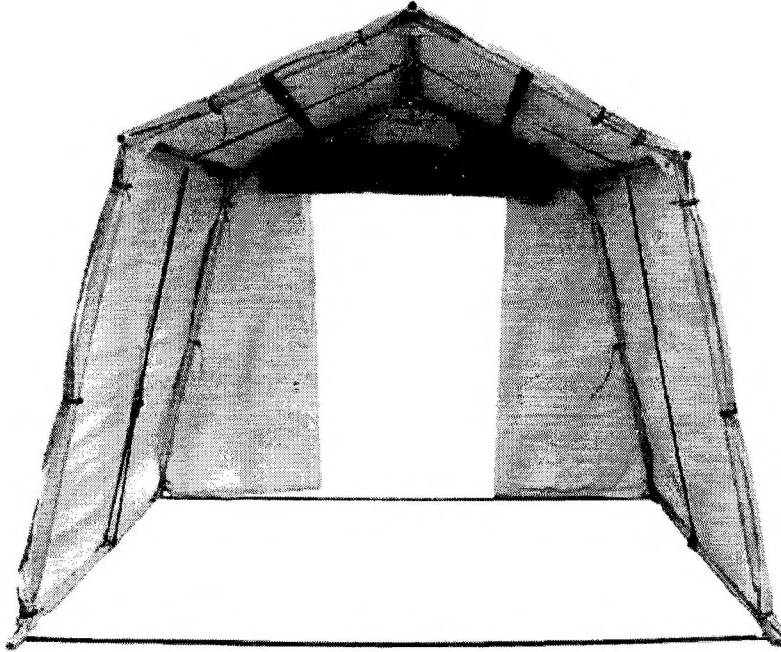

Figure 48: Access (Typical arrangement)
54. To provide access the centre end wall panels should be rolled up from the inside Fig 48.